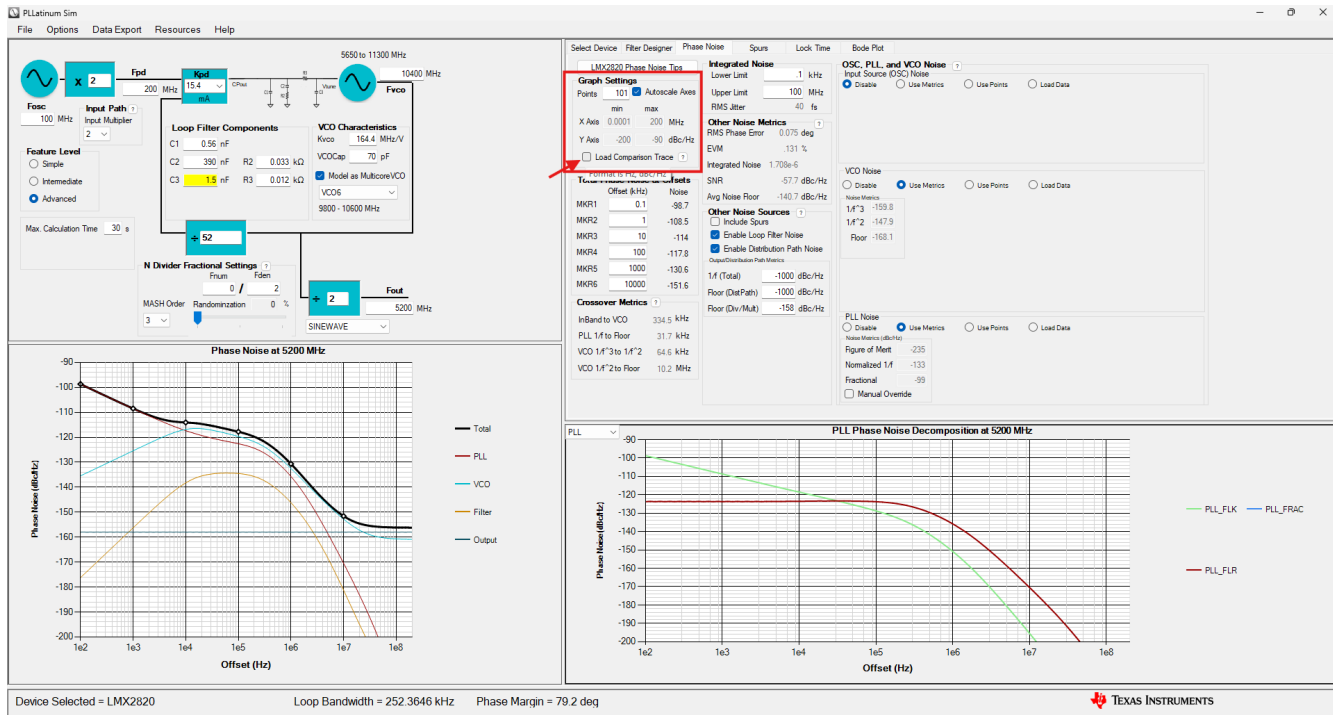

Figure 11-1. Loading a Trace to PLLatinum Sim
2. Under the *Phase Noise* tab, select *Load Comparison trace* check box under the *Graph Settings* section, as shown in Figure 11-1.